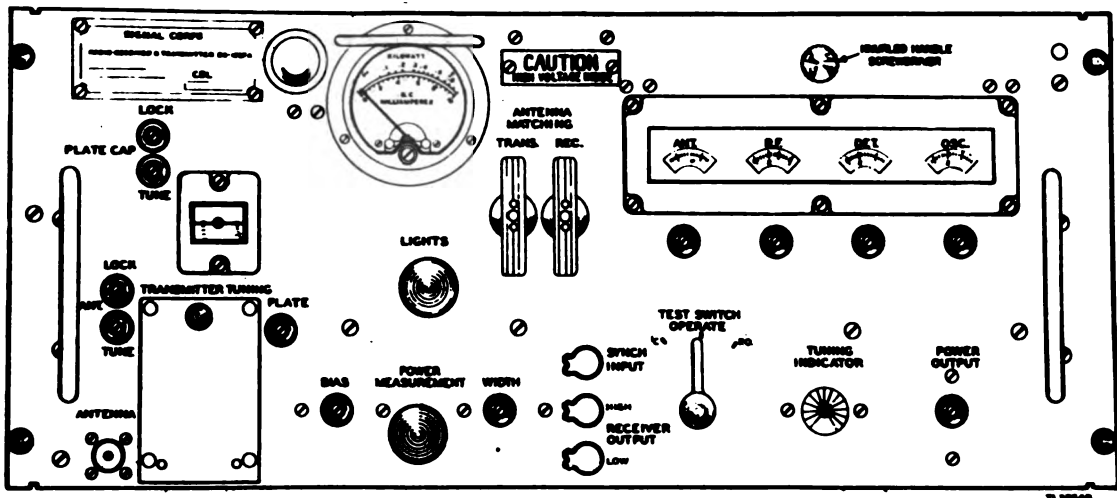
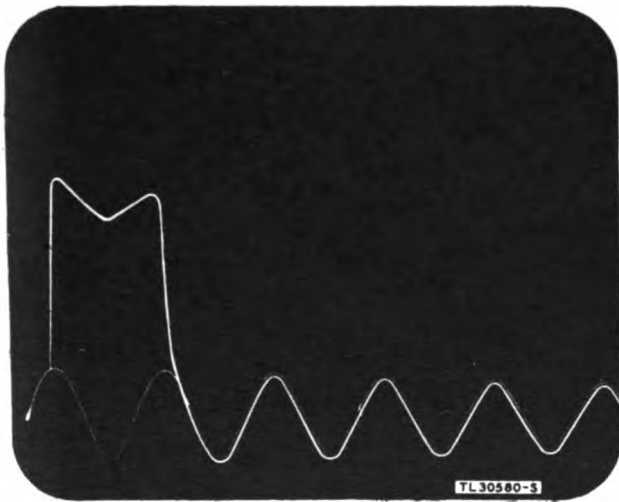

Figure 70. Radio Receiver and Transmitter BC-1267-A, front panel view.
Figure 71. Pulse width measurement waveforms.
a. Follow the procedure below in checking and adjusting the WIDTH control (fig. 70).
(1) Place the challenge switch in the OPERATE position and turn the range switch to the CALIB. position.
(2) Turn the 10 K YD. GAIN screwdriver control completely clockwise and then adjust CENT. to set the left edge of the pattern on the display oscilloscope to about  $\frac{1}{2}$  inch from the left of the screen. The calibrating waves are now spread out on the screen (fig. 71). Each cycle of the calibrating sine wave represents 5 microseconds. (A cycle is the distance from any point on the wave to the corresponding point on the next wave.)
(3) Turn the INTENSITY control clockwise until the pattern on the screen is very bright but not bright enough to be too fuzzy.
(4) Request the radar operator to turn the SLEWING handwheel on the radar range indicator until the radar range pointer is at zero yards. Hold the test switch on the receiver-transmitter in the P.O. position. The envelope of the transmitter pulse will appear superimposed on the calibrating wave (fig. 71).
(5) Adjust the WIDTH control on the receiver-transmitter to obtain the desired pulse width. The width is measured at a point halfway up the power output pulse. The pulse width selected must be between 4 and 10 microseconds; that is, the power output pulse can vary from slightly less than one calibrating cycle up to two cycles wide.
(6) After the pulse width has been adjusted, check the modulator cathode current. Set the challenge switch to the OPERATE position and hold the TEST SWITCH on the receiver-transmitter in the IC position. The cathode current must be less than 7.5 milliamperes. If it is more than 7.5 milliamperes, decrease the pulse width.
(1) Place the challenge switch in the OPERATE position.
(2) Hold the TEST SWITCH in the P.O. position.
(3) Rotate the POWER MEASUREMENT control (fig. 70) clockwise meanwhile observing the pulse on the screen of the cathode-ray tube, until the pulse decreases to a minimum. Do not turn the POWER MEASUREMENT control past the point where the pulse ceases to decrease or an erroneous reading will be obtained.
(4) Read the power output on the test meter.
- 1a. Check sync pulse at **SYNCH INPUT** jack 150-1 on receiver-transmitter panel (fig. 70). If pulse is present, the fault is in receiver-transmitter (see 2).